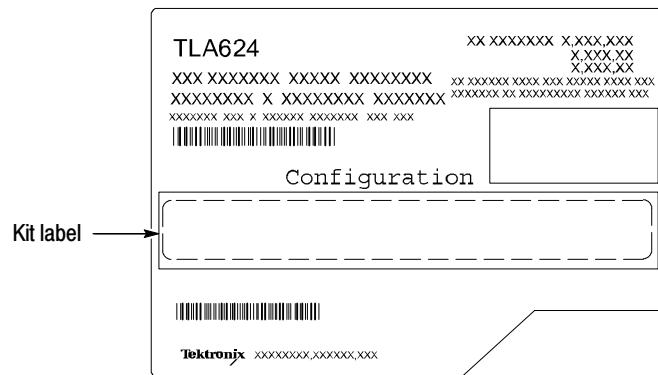

Figure 3: TLA600 series logic analyzer label (located on the rear of the instrument). TLA5000 labels look similar.
1. Locate the big label on the rear of the instrument; it should look similar to the label in Figure 3.
2. Locate PowerFlex option label from the label sheet that you received with this kit. Peel the label from the sheet and affix it to the location indicated by “Kit label” in Figure 3.